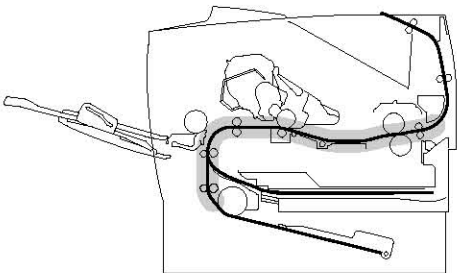

Fig. 6-1
- The shaded areas in Fig. 6-1 show the location of jammed paper.